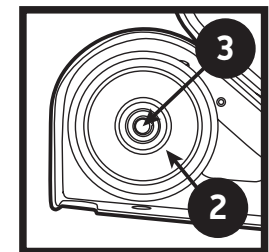

Figure 12
3. Install the upper wheel such that its inner bearing surface is approximately 0.06 inches out from its bearing support. Secure the wheel with locking set screw. (Figure 12)